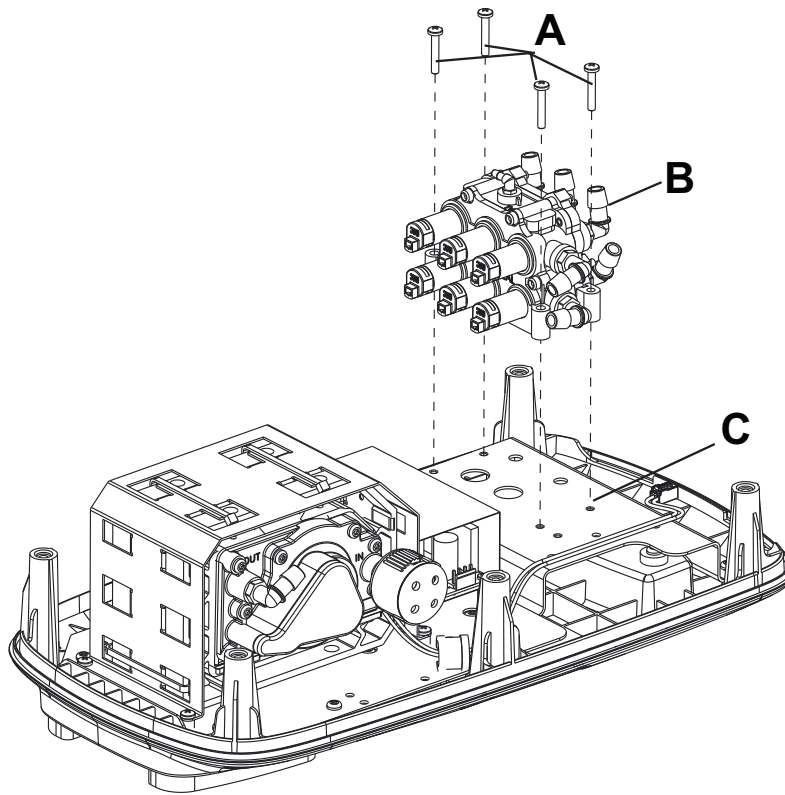

Figure 29 – Pump manifold assembly
6. Using a #2 Phillips screwdriver, remove the four screws (A) that secure the pump manifold assembly (B) to the back plate (C) (Figure 29). Save the screws.